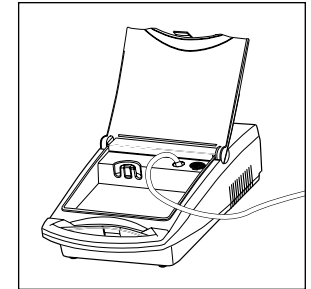

Figure 3
5. Connect one end of the nebulizer tubing to the compressor air-outlet connector (**Fig. 3**).